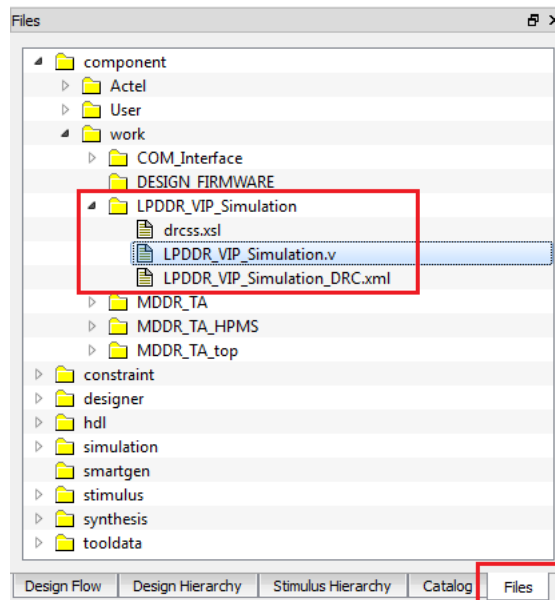

Figure 25 • SmartDesign Generated Testbench File
- Open the generated SmartDesign testbench file, **LPDDR_VIP_Simulation.v**. Figure 25 shows the SmartDesign generated testbench file under **Files** tab.